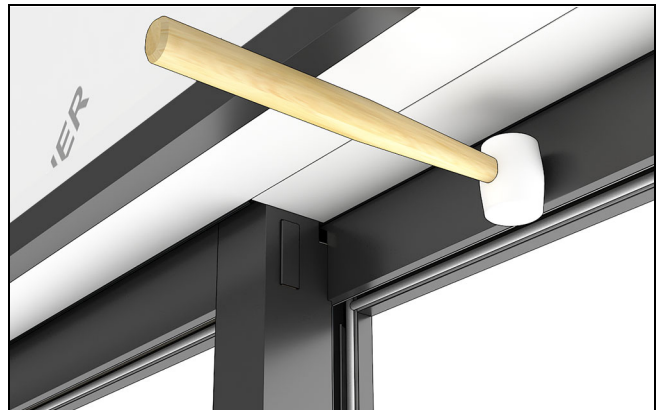

Figure 113
2. Starting from the exterior, install the head jamb covers. The covers have a leg that fits into a kerf on the jamb weather strip or a kerf in the frame itself. Fit the leg on the cover into the kerf on the jamb and rotate the cover into place. You may need to seat the cover with a rubber mallet. See Figure 111, Figure 112, and Figure 113.